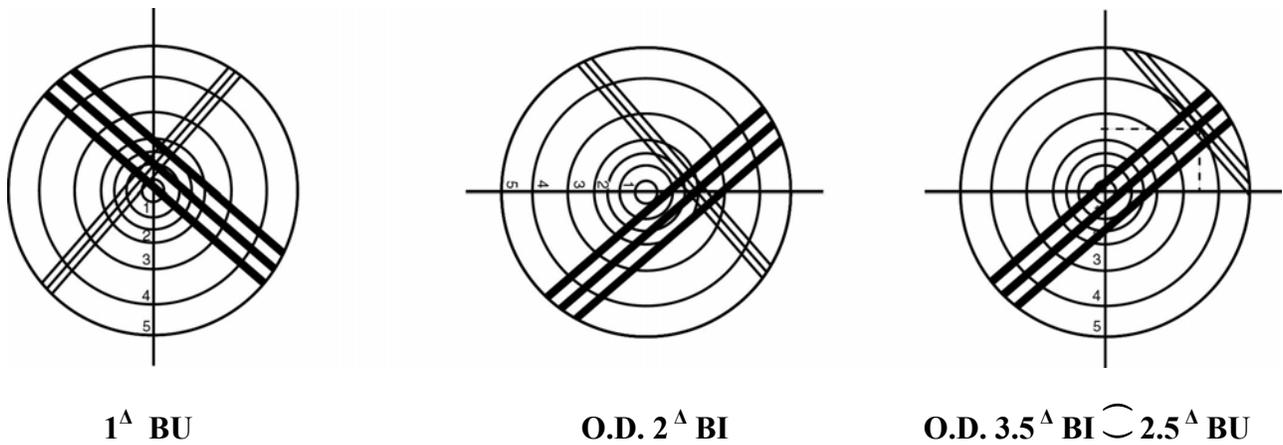

FIGURE 13
- D. Some Examples- see Figure 13
Note: the prism present for the middle figure of Figure 13 would be 2^Δ BO if a left lens was being measured.